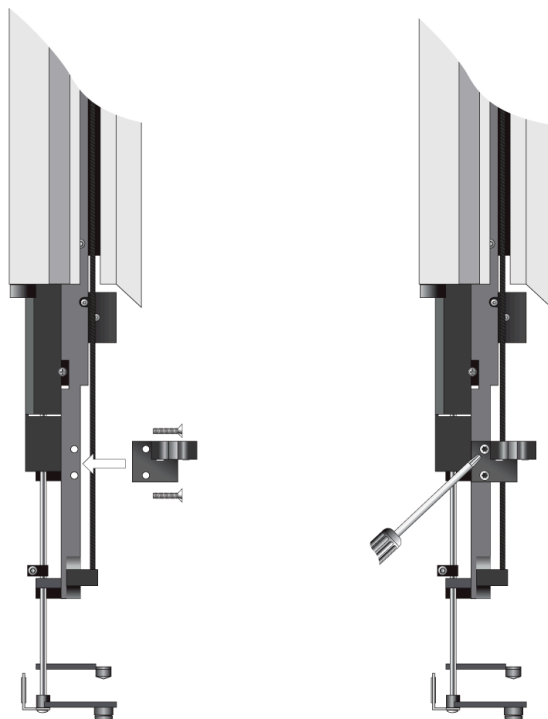

Figure 6. Attaching the Magnetic Gripper to the PAL Z-axis
- 3 Locate the two supplied Torx screws and attach the Magnetic Gripper securely to the black syringe carrier. (see Figure 6).